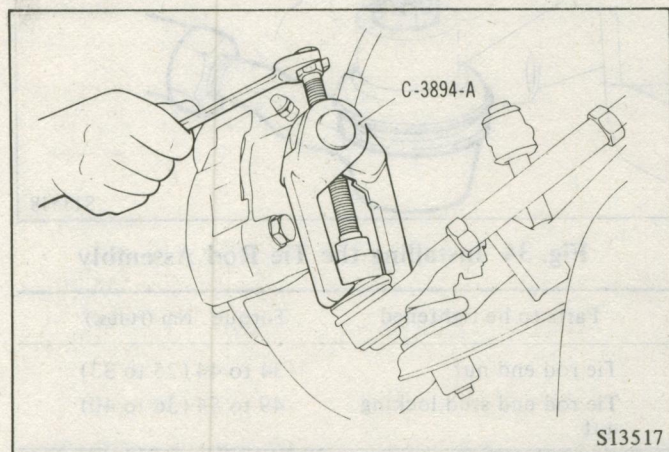

Fig. 30 Removing the Tie Rod End
- (1) Disconnect the tie rod ends using special tool (C-3894-A). (Fig. 30)